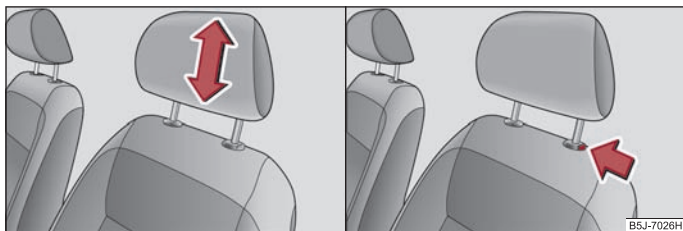

Fig. 51 Head restraint: Adjusting / pulling out
- Grasp the side of the head restraint with both hands and push the head restraint in the direction of axle of the metal guide rods, in the direction of arrow to the top or to the bottom ⇒ fig. 51 on the left.
- Move the head restraint downwards if required by pressing the locking button ⇒ fig. 51 on the right and by pressing with the other hand the head restraint downwards.
- Press the locking button in the direction of arrow ⇒ fig. 51 and pull the head restraint out.